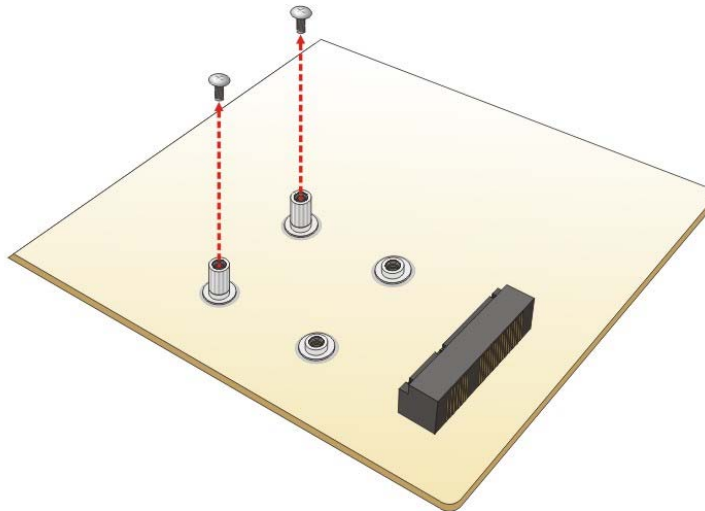

Figure 3-9: Removing the Retention Screws
Step 3: Remove the retention screws. Remove the two retention screws as shown in Figure 3-9.